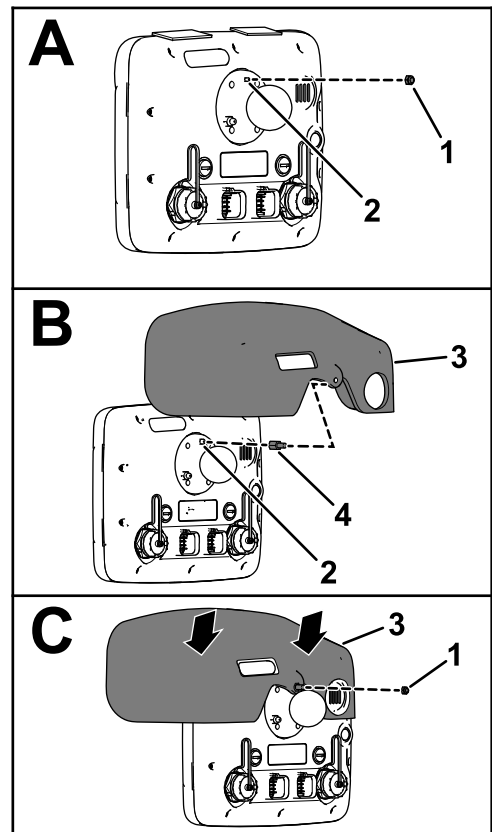

Figure 11
1. At the back of the sprayer monitor and with the 2 connectors (26 pin) aligned down, remove the top locknut (5 mm) from the stud for the ball-pivot fitting (A of Figure 11).
3. Thread the standoff into the stud for the ball-pivot fitting (B of Figure 11) and torque the standoff to 250 N·cm (22 in-lb).
6. Align the hole in the display hood with the stud portion of the threaded standoff (B of Figure 11).
7. Assemble the hood to the monitor (C of Figure 11) with the locknut (5 mm) that you removed in step 1.